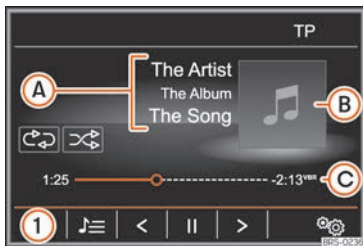

Fig. 210 MEDIA main menu.
- Press the **MEDIA** button on the Infotainment system to open the *MEDIA* main menu **»» Fig. 210.**